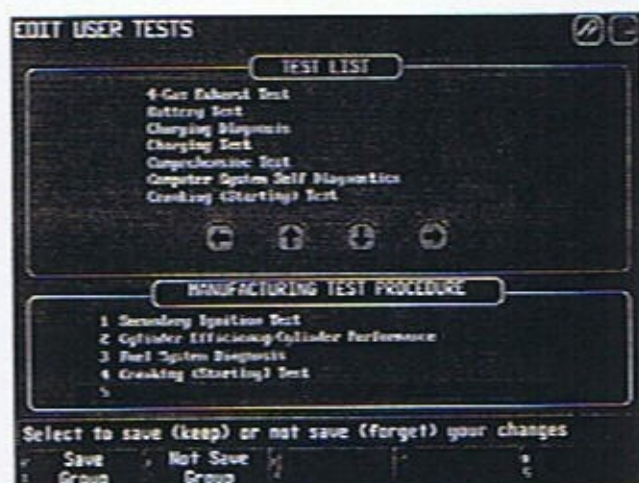

Figure 5-24
3. Press [F1] when finished. The screen in Figure 5-24 appears prompting you to save or not save the additions.
3. Press [F1] when finished. The screen in Figure 5-24 appears.
5. Press [F1] when finished. The screen in Figure 5-24 appears.